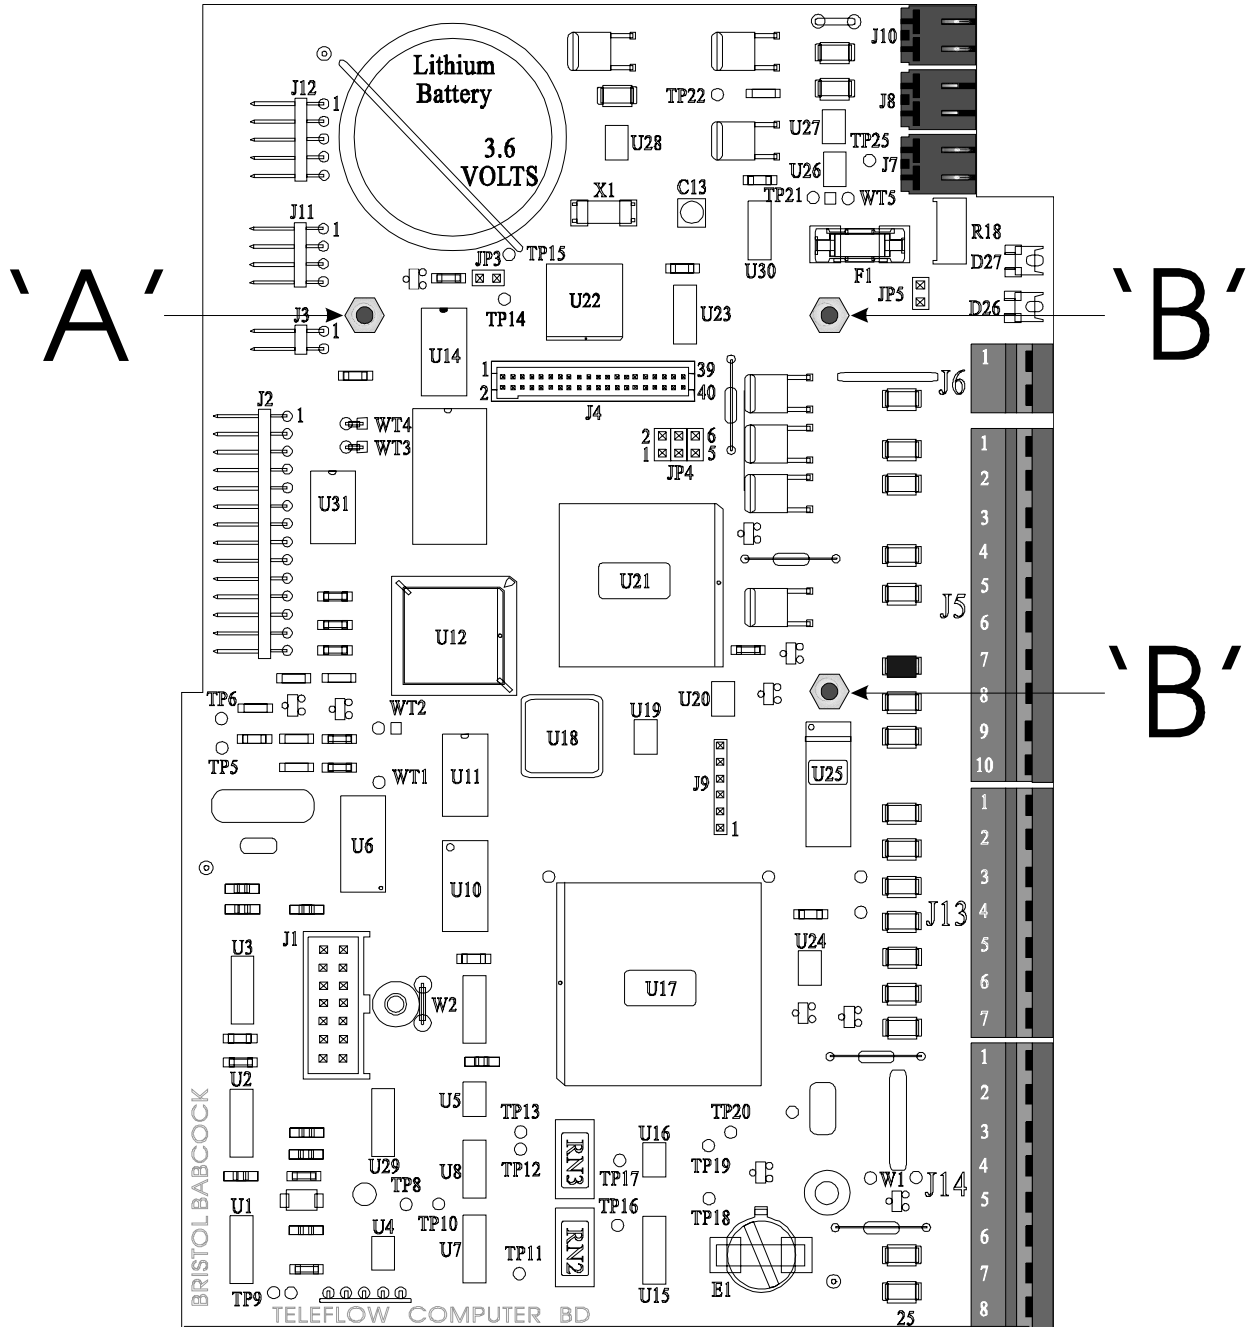

Figure 2 - TeleFlow CPU Board – Installation Drawing #1
7. Remove the screw (location 'A' in Figures 2 & 3) and the two (2) #4-40 x 5/8" Standoffs (location 'B' in Figures 2 & 3) which secure the CPU Board to the Main Mounting Bracket. Replace these items with the three new #4-40 x 15/32" Standoffs.
9. Secure the EXPCOM232 Board to the CPU Board by installing three (3) #4-40 x .188" Standoffs at locations 'A' and 'B' (see Figures 2 & 3).
5. Remove the three screws (of five) that secure the CPU Board to the Sliding Mounting Bracket (locations 'A' & 'B' in Figures 2 & 3) and replace these items with the three new #4-40 x 15/32" Standoffs.
4. Remove the three screws (of five) that secure the CPU Board to the RTU Mounting Bracket (locations 'A' & 'B' in Figures 2 & 3) and replace these items with the three new #4-40 x 15/32" Standoffs.